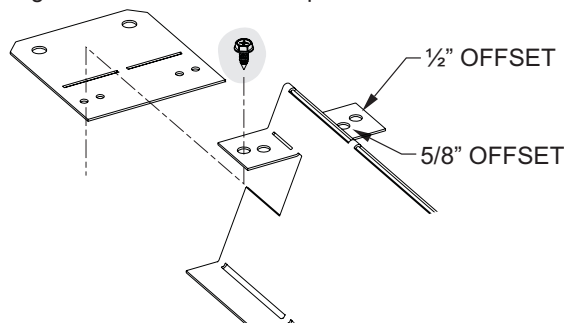

Figure 22
2. Attach four (SP) or five (PP) top-side nailing flanges to the top stand-offs as shown in **Figure 22**. Leave the nailing flanges flat at this time. Note that while the non-combustible board provided with this fireplace is $\frac{1}{2}$ " thick, some adjustment of the nailing flange position can be made by using either the outer or inner pair of holes.